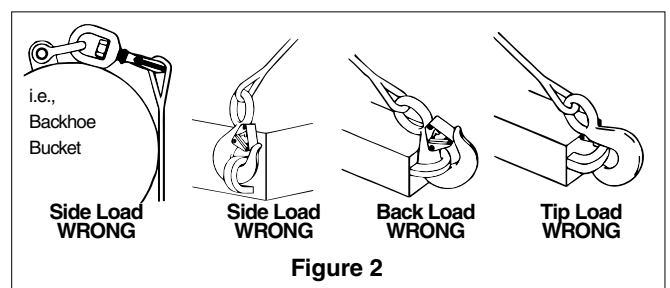

Figure 2
- Never side load, back load, or tip load a hook. Side loading, back loading and tip loading are conditions that damage and reduce the capacity of the hook (See Figure 2).